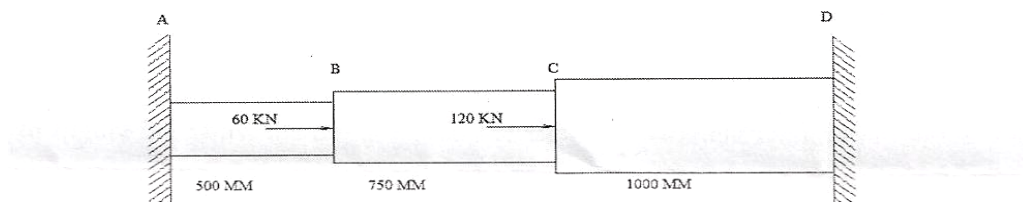

Figure 1b
1. a. Draw stress strains diagram for aluminium and for mild steel, clearly mention all point on the diagram (8)
b. A bar ABCD is fixed at point A and D as shown Figure 1b. it is subjected to axial forces of 60 KN and 120 KN at point B and C respectively. The cross-sectional areas of AB, BC and CD are 1000mm^2 and 1500mm^2 and 2000mm^2 respectively. Take $E=200$ GPa. Determine: